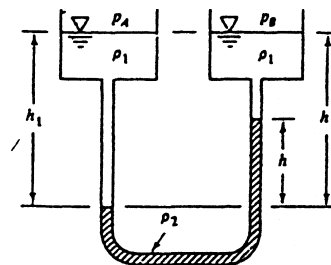

Fig. P2.42
**2.42** Small pressure differences can be measured by the two-fluid manometer in Fig. P2.42, where  $\rho_2$  is only slightly larger than  $\rho_1$ . Derive a formula for  $p_A - p_B$  if the reservoirs are very large.